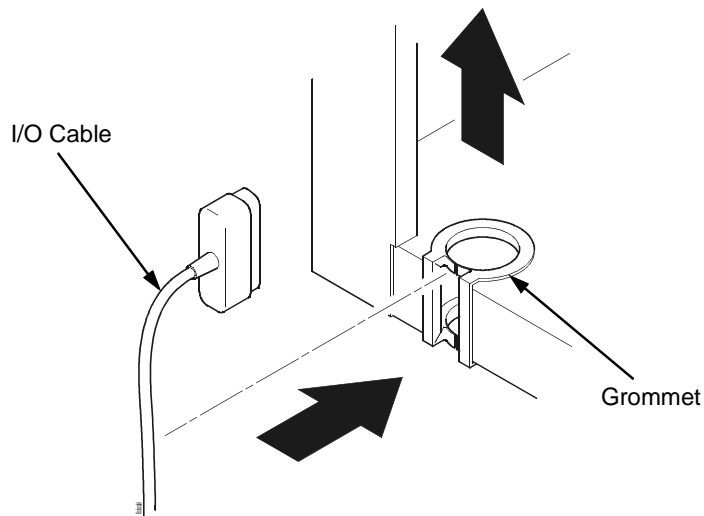

Figure 31. Bottom-Rear Inside View of the Cabinet Model Showing the Cable Routing Notch
4. Thread the power cable connector up through the notch in the lower-right back corner of the cabinet (see Figure 31). Plug the power cord into the printer AC power connector, then into the AC power outlet.